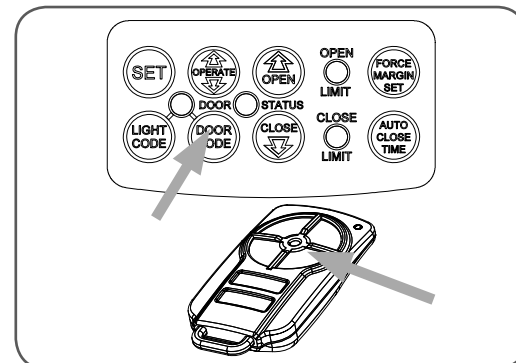

fig 23
- Briefly press the DOOR CODE button once, then press it again and hold (will beep two times on second press (**Fig. 23**)).
- Press one of the four (4) buttons on the transmitter for two (2) seconds, pause for two (2) seconds, then press the same button again for two (2) seconds.
- Press and hold the transmitter button for six (6) seconds to set Vacation Mode. The door code LED will stay lit while Vacation Mode is active.